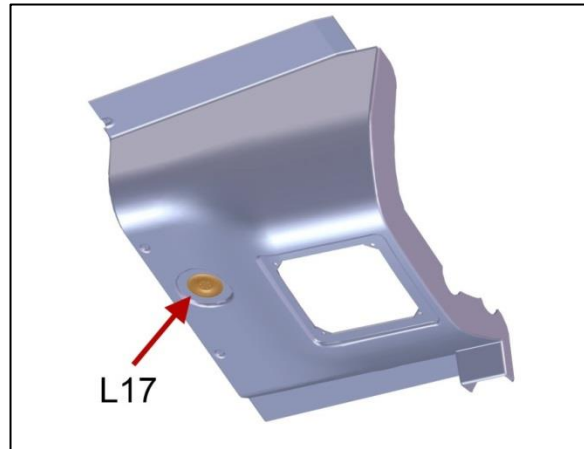

Figure 10
15. Locate the existing L17 light on the front RH roof (Figure 10).